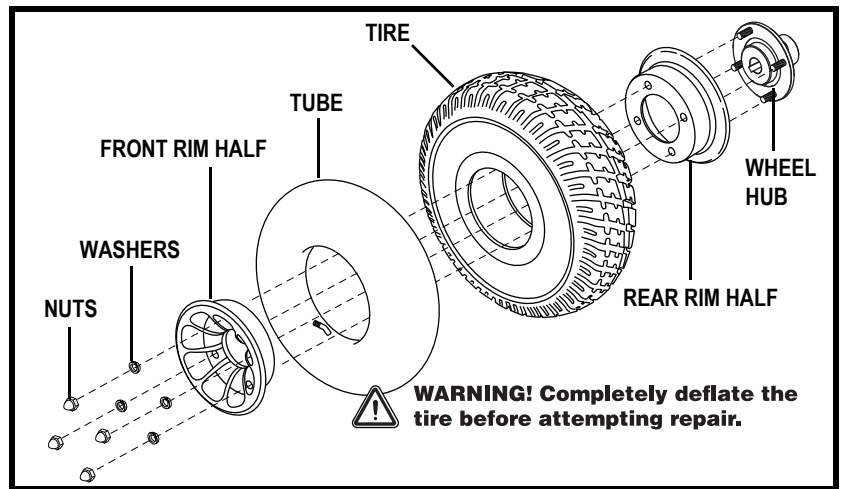

Figure 27. Drive Wheel Disassembled
6. Remove the nuts and washers from the rim assembly and separate the front and rear rim. See figure 27.